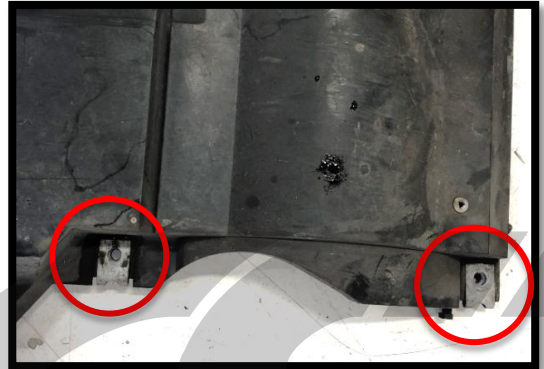

Figure 2a
- a) Locate the four (4) OEM U-nuts attached to the outer sides of the OEM splash shield rear section. Shown circled in red in Figure 2a.